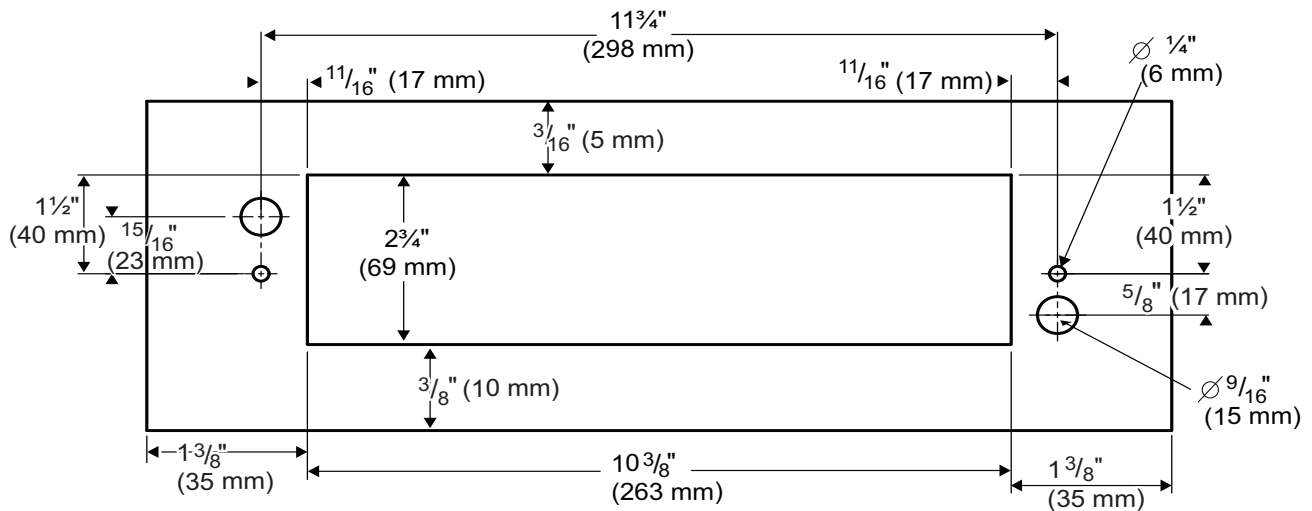

Figure 21: Wall Cutout (view is shown facing wall)
3. Prepare wall (or similar surface) cutout for installation as shown below in *Figure 21*.